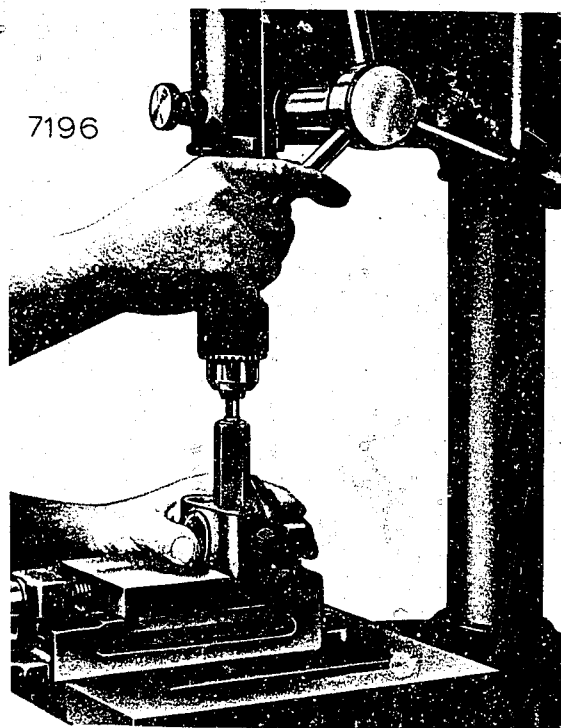

FIGURE 7 - RECONDITIONING VALVE SEAT
2. Damaged, scored or pitted valve seats can be refinished with tool TSE 7914 (Bacharach code 72-0122) and a drill press (Refer to Figure 7).